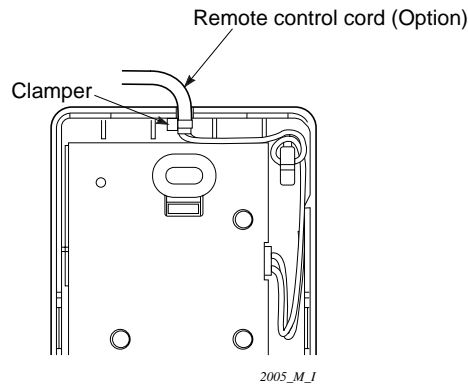

Fig. 7-17
- (5) After arranging the wiring on the printed circuit board as shown in Fig. 7-17 so that it is contained within the signal receiving unit, attach the back case. At this time, arrange so that the head of the clamper faces the side.
- (6) Remove the cover plate and install the signal receiving unit using the 2 wood screws.
- (7) Fasten to the wall using the cord clip (supplied).
- (8) Reinstall the cover plate.